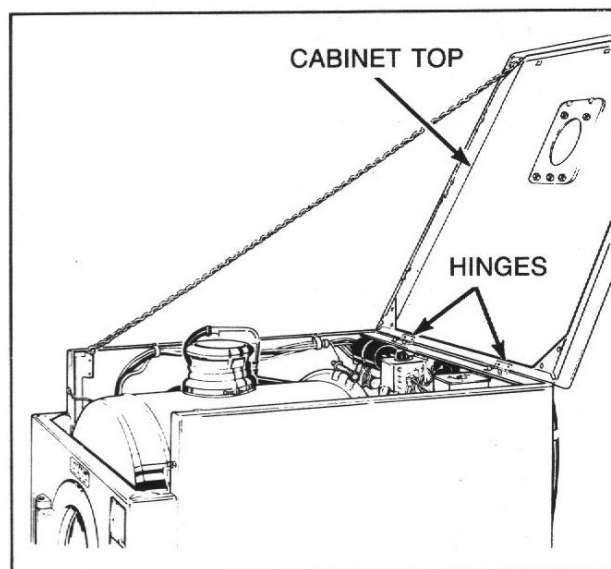

Figure 8
- d. Tilt cabinet top backward and hold in raised position with a small chain, *Figure 8*.
- e. Remove four screws and nuts holding cabinet top to hinges, *Figure 8*.
- h. Tilt cabinet top backward and hold in raised position with small chain, *Figure 8*.
- f. Tilt cabinet top backwards and hold in raised position with a small chain, *Figure 8*.
- g. Tilt cabinet top backward and hold in raised position with a small chain, *Figure 8*.
- f. Tilt cabinet top backward and hold in raised position with a small chain, *Figure 8*.
- Tilt cabinet top backwards and hold in raised position with a small chain, *Figure 8*.